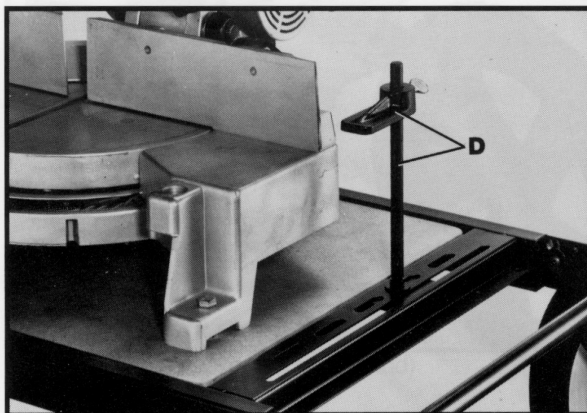

Fig. 23
21. Assemble the stock lift inhibitor (D) Fig. 23, to the frame of the work stand as shown. Fasten the inhibitor (D) from underneath using the special plate, flat washer and nut supplied. **IMPORTANT:** The post of the inhibitor (D) must be behind the fence of the saw so as not to interfere with the workpiece.